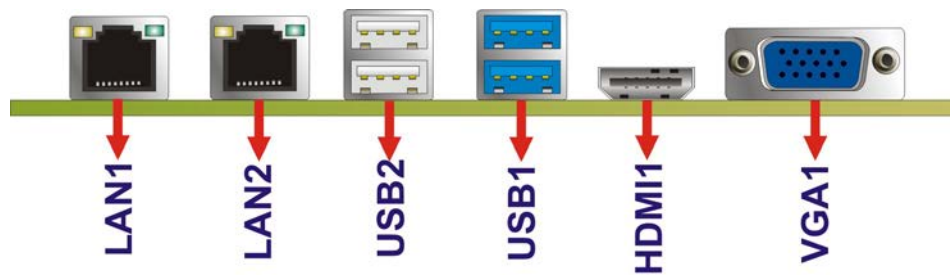

Figure 3-31: External Peripheral Interface Connector
Figure 3-31 shows the NANO-SE-i1/KBN-i1/GLX external peripheral interface connector (EPIC) panel. The EPIC panel consists of the following:
**CN Location:** See Figure 3-31
**CN Location:** See **Figure 3-31**
CN Location:	See Figure 3-31